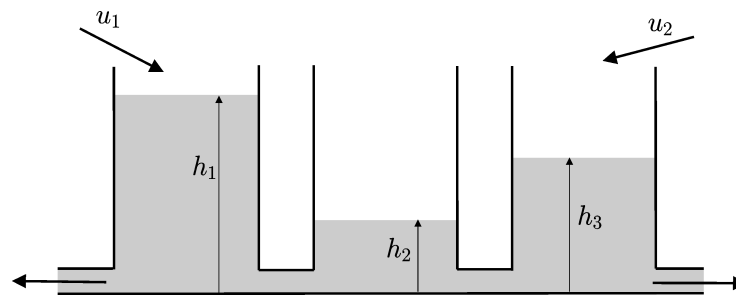

Figure 2.11: System composed of three containers filled with water and connected with two canals
2) Let us now consider the system composed of three containers as represented on Figure 2.11.